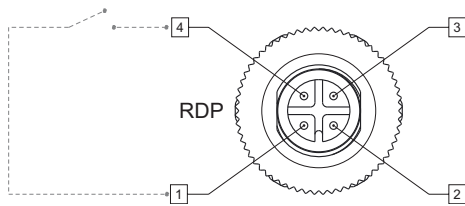

Figure 20: M12 Male connector
- Bridge connections 1&4 on the supplied M12 male connector (figure 20 M12 Male connector)